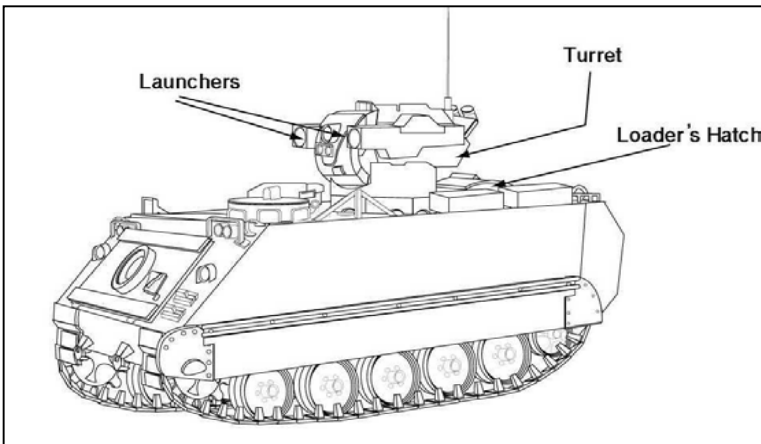

Figure 4-1-1: TUA
11. The weapon system, which is mounted on an M113A2, consists of an armoured rotating turret with two external mounted launchers (see Figure 4-1-1).